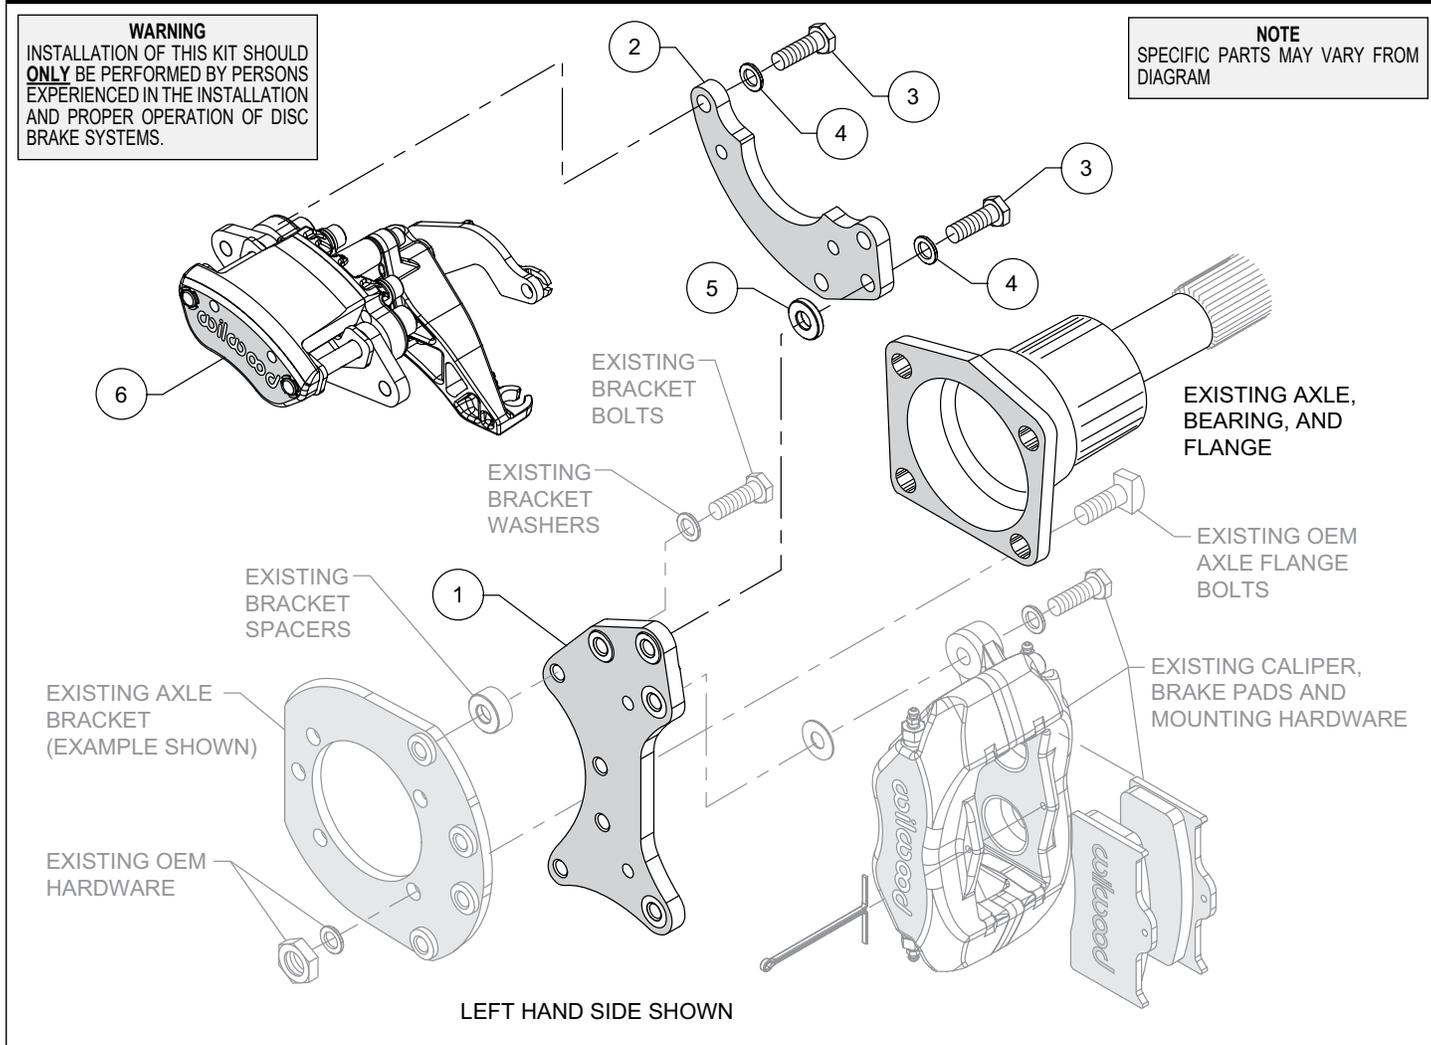

Figure 1. Typical Installation Configuration
NOTE: Numbers in parenthesis refer to the parts list and Figure 1 on the preceding pages.
- Orient the new caliper mount bracket (1) and the existing axle flange bracket as shown in Figure 1 and Photo 1, and assemble using saved bolts, washers, spacers, and shims (if any). **NOTE:** *The spacing between the two brackets must be the same as it was for the old bracket assembly.* Apply red *Loctite*® 271 to the bolt threads and torque to 40 ft-lbs.
- Attach the MC4 flat caliper bracket (2) to the caliper mount bracket (1) using bolts (3), washers (4), and spacers (5) as shown in Figure 1 and Photo 1. Apply red *Loctite*® 271 to the bolt threads and torque to 40 ft-lbs.
- Orient the bracket assembly as shown in Figure 1, and re-mount it to the axle housing flange using the saved OEM bolts/nuts, Figure 1. Apply red *Loctite*® 271 to the bolt threads and torque to manufacturer's specification.
- Mount the parking brake caliper (6) onto the MC4 caliper mounting flat bracket (2) using bolts (3) and washers (4), as shown in Figure 1 and Photo 2. Apply red *Loctite*® 271 to bolt threads, and torque to 40 ft-lb.